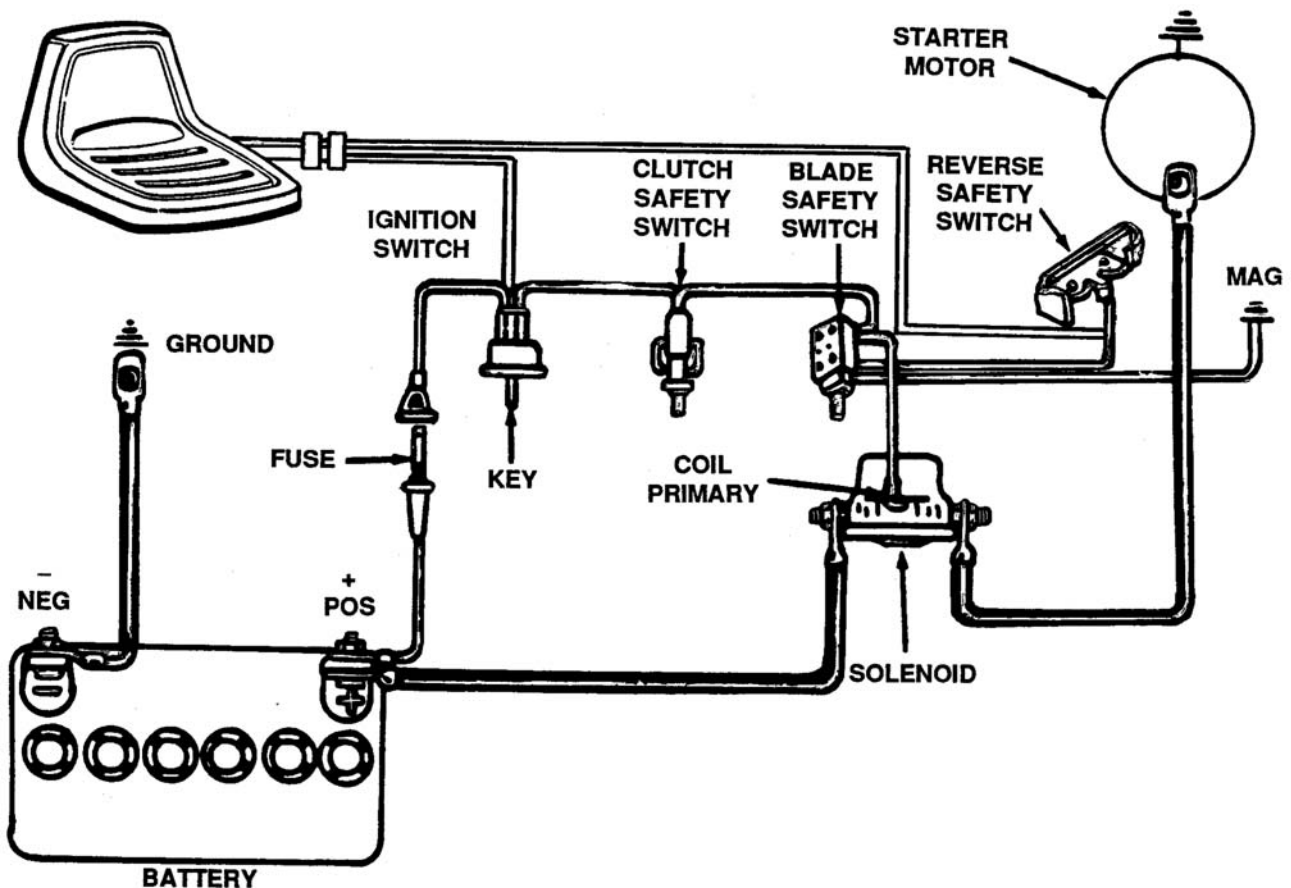

Figure 3-8. Typical Electric Start System.
- 3-3.1 Before the engine will crank, the key must be turned on and both of the safety switches must be activated. One is activated when the clutch is depressed and one is activated when the blade is disengaged. When this happens the circuit will be complete between the battery and the coil primary of the solenoid. This will close the solenoid which will allow the starter motor to crank the engine. The safety switches are wired in series on the electric start models. See Figure 3-8.